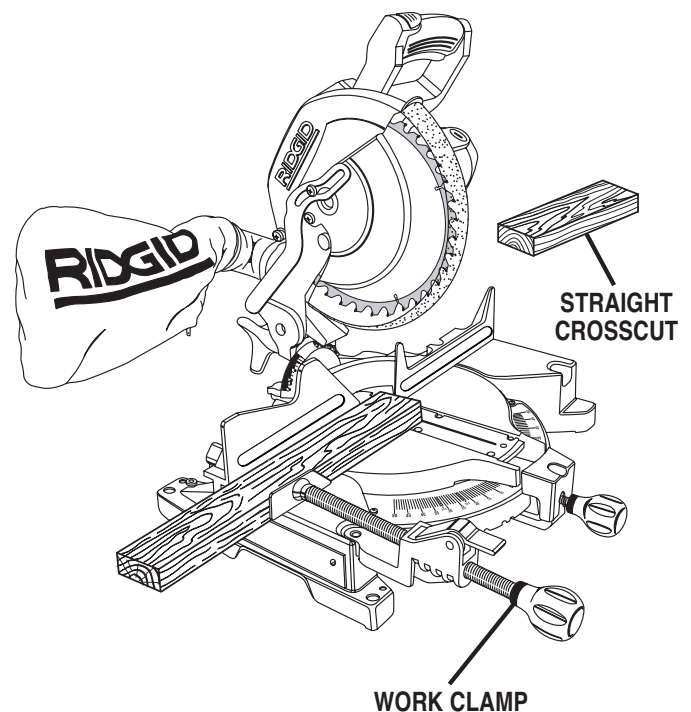

Fig. 22
See Figure 22.
- Grasp the stock firmly with one hand and secure it against the fence. Use the optional work clamp or a C-clamp to secure the workpiece when possible. See Figure 22.
- Slowly lower the blade into and through the workpiece. See Figure 22.